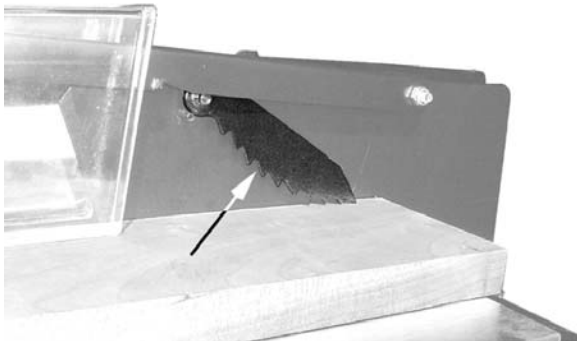

Figure 29
- ❑ As the machine receives use, the operation of the anti-kickback pawls should be checked periodically (Figure 29). If the pawls do not stop the reverse motion of a workpiece, resharpen all the points.